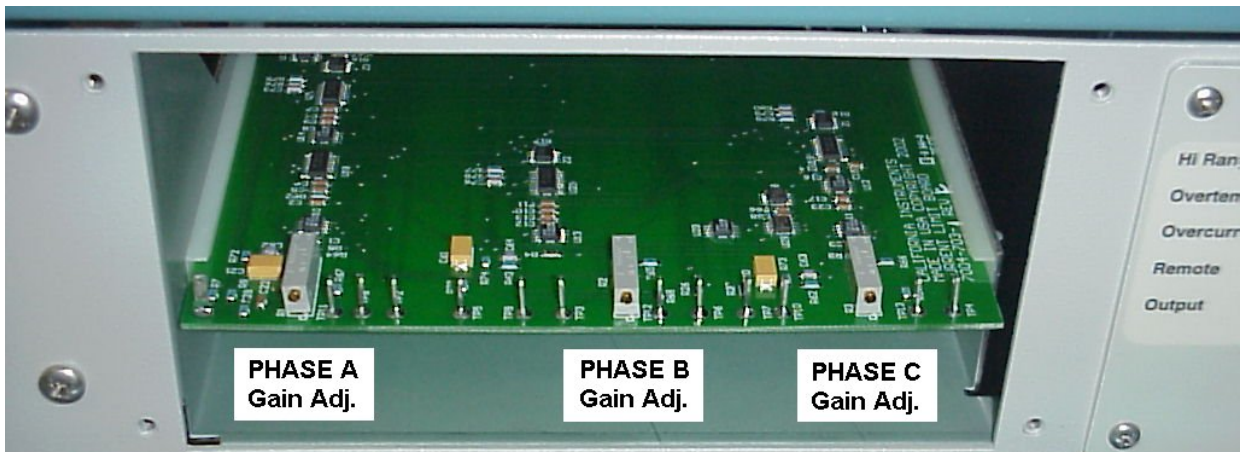

Figure 6-3: Location of Gain pot adjustments and TP1 through TP4
- Remove the four screws that hold the current limit board access panel to the front panel and remove the access panel. This will provide access to the Current Limit board assembly (P/N 7004-703-1). Refer to Figure 6-3.